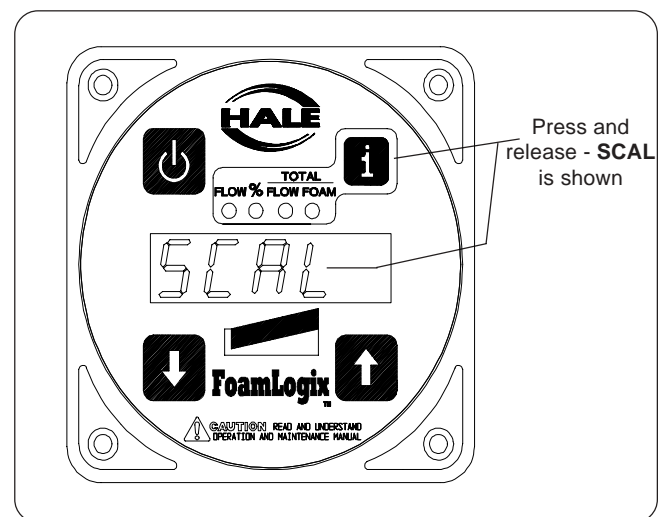

Figure 34: Display - Exit and Save Calibration
3. The display shows **SCAL** for several seconds then cycles through the start-up sequence followed by the flow display **0**. (See Figure 34: "Display - Exit and Save Calibration.")